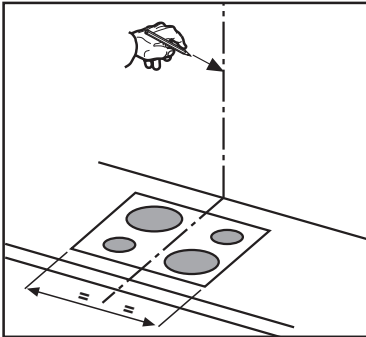

Fig. 7
- Drawing a line on the wall with a pencil up to the ceiling, corresponding to the centre line, will make the installation operations easier. **Fig. 7**